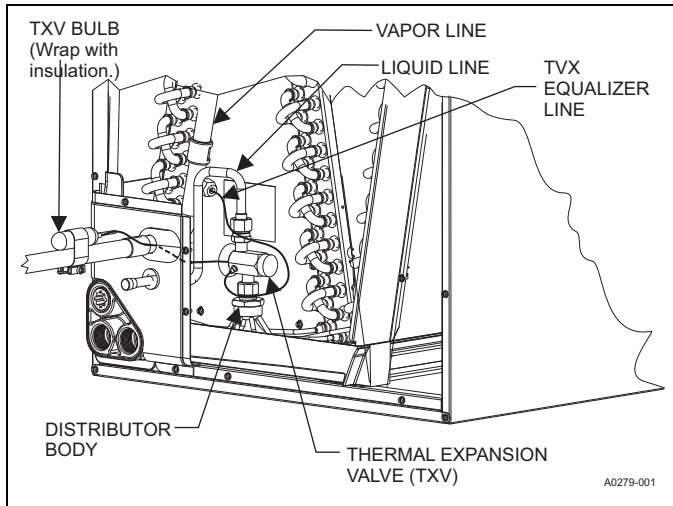

FIGURE 3: TXV Bulb and Equalizer line Installations
6. Install the TXV equalizer line onto the vapor line by hand tightening the 1/4" SAE coupling nut to the equalizer fitting, and apply an additional 1/3 turn to seal. See Figure 3.
8. Install the TXV bulb to the vapor line near the cabinet, using the bulb clamp(s) furnished with the TXV assembly. Ensure the bulb is making maximum contact. See Figures 3 and 4, and accomplish the following: